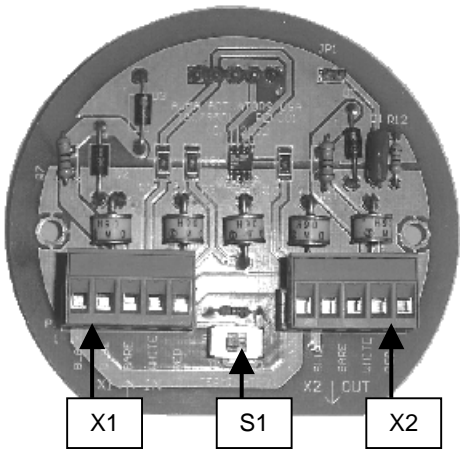

Figure 4-4
- Connect incoming DeviceNet cable to X1 (figure 4-4).
- Connect outgoing DeviceNet cable to X2 (figure 4-4).
The CDN795 connection board provides a 121 ohm termination resistor that can be switched ON and OFF with switch S1 (figure 4-4). The termination resistor should be switched ON only if the actuator is the first or last node on the bus and no other termination resistors are installed elsewhere on the bus.